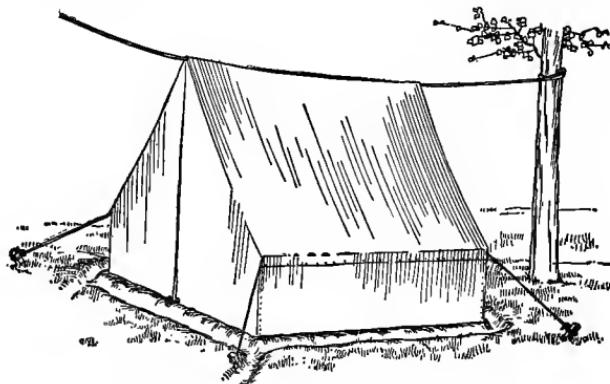

FIG. 494. — A Home-Made Wall Tent.
and one of these 7 feet by 7 feet in size can be purchased in most localities for about \$6.00; but when spending-money is limited this is a good deal to pay out for a single piece of equipment; therefore, in Fig. 494 I am showing
**The Wall Supports.** Figure 495 shows how four stakes are driven into the ground at the four corners of the tent, and two poles nailed across their tops, to support the walls of the wall tent shown in Fig. 494. Then a strip of canvas or burlap is tacked to the two sides and one end of this framework, as shown in Fig. 496.
you pitch your tent in the back yard. Tack the lower edges of the covering to the side poles of the wall framework. The back of the tent should be enclosed with one piece of cloth, sewed to the upper covering and to the lower wall strip, while the front should be made in two pieces and be parted in the middle. The wall framework should be braced at the corners with ropes fastened to the framework and to stakes driven into the ground, as shown in Fig. 494.
**Dig a Trench Around the Outside**, with an opening on the side where the ground is lowest, for a drain (Figs. 494 and 497). This trench will catch the surface rain water before it floods into your tent, and will carry it off. Do not put off this trenching, for, if you are caught unprepared, you surely will regret it.